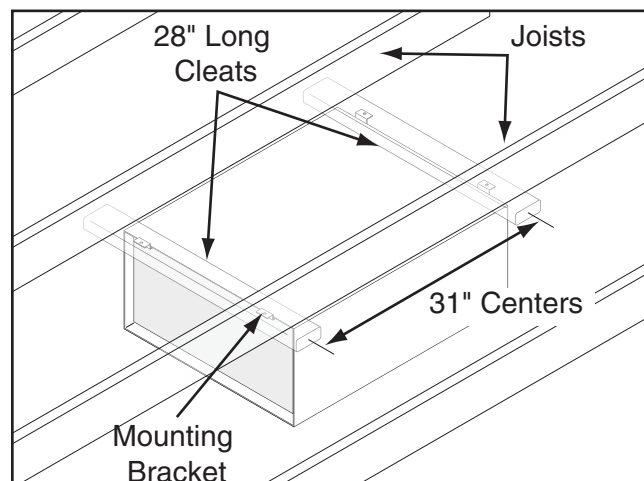

Figure 9. Example of Model G5955 supported using 28" long material.
We recommend mounting 2 x 4 cleats across joists or studs, then attaching the hanging air filter to the cleats on 18" or 31" centers, as shown in **Figure 9** and **10**.
4. Measure the distance between the centers of your joists (see **Figure 9 or 10**) and drill four pilot holes into the cleats to match, (two on each end) for the mounting screws.